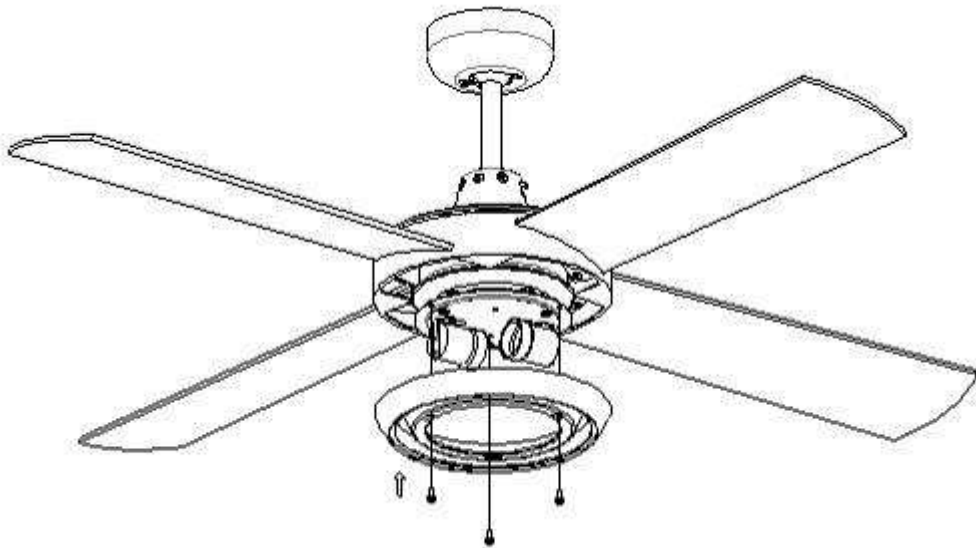

Fig.7
6. Replace the light plate as describe in step 4 and secure with screws as shown in Fig.7.